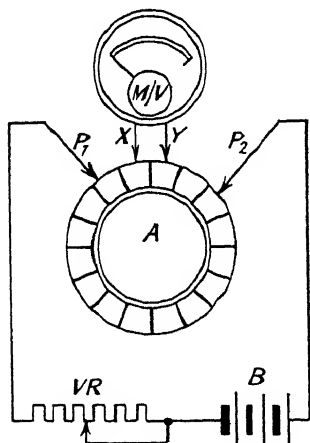

FIG. 8.—LAYOUT OF A "DROP TEST"
Fig. 8 illustrates the layout of the "drop test," as it is popularly called. Current from the battery B flows through the variable resistance VR to prod P1, round armature (A) windings, leaving at prod P2, and returning to battery. As the prods contact the armature (commutator bars) at the same angle as main brushes—in this case the angle is 90°—two paths are offered : via the normal "live" coils or group of coils, and also via other windings in series. The actual length of wire or group of coils connected between any one bar and its neighbour is usually the same, and therefore the resistance between adjacent bars should be equal all round. This is verified by the millivoltmeter M/V, which is bridged across adjacent bars by the prods X and Y. When connected thus, current flows via alternative paths as the coils and the meter bridging them are in parallel.